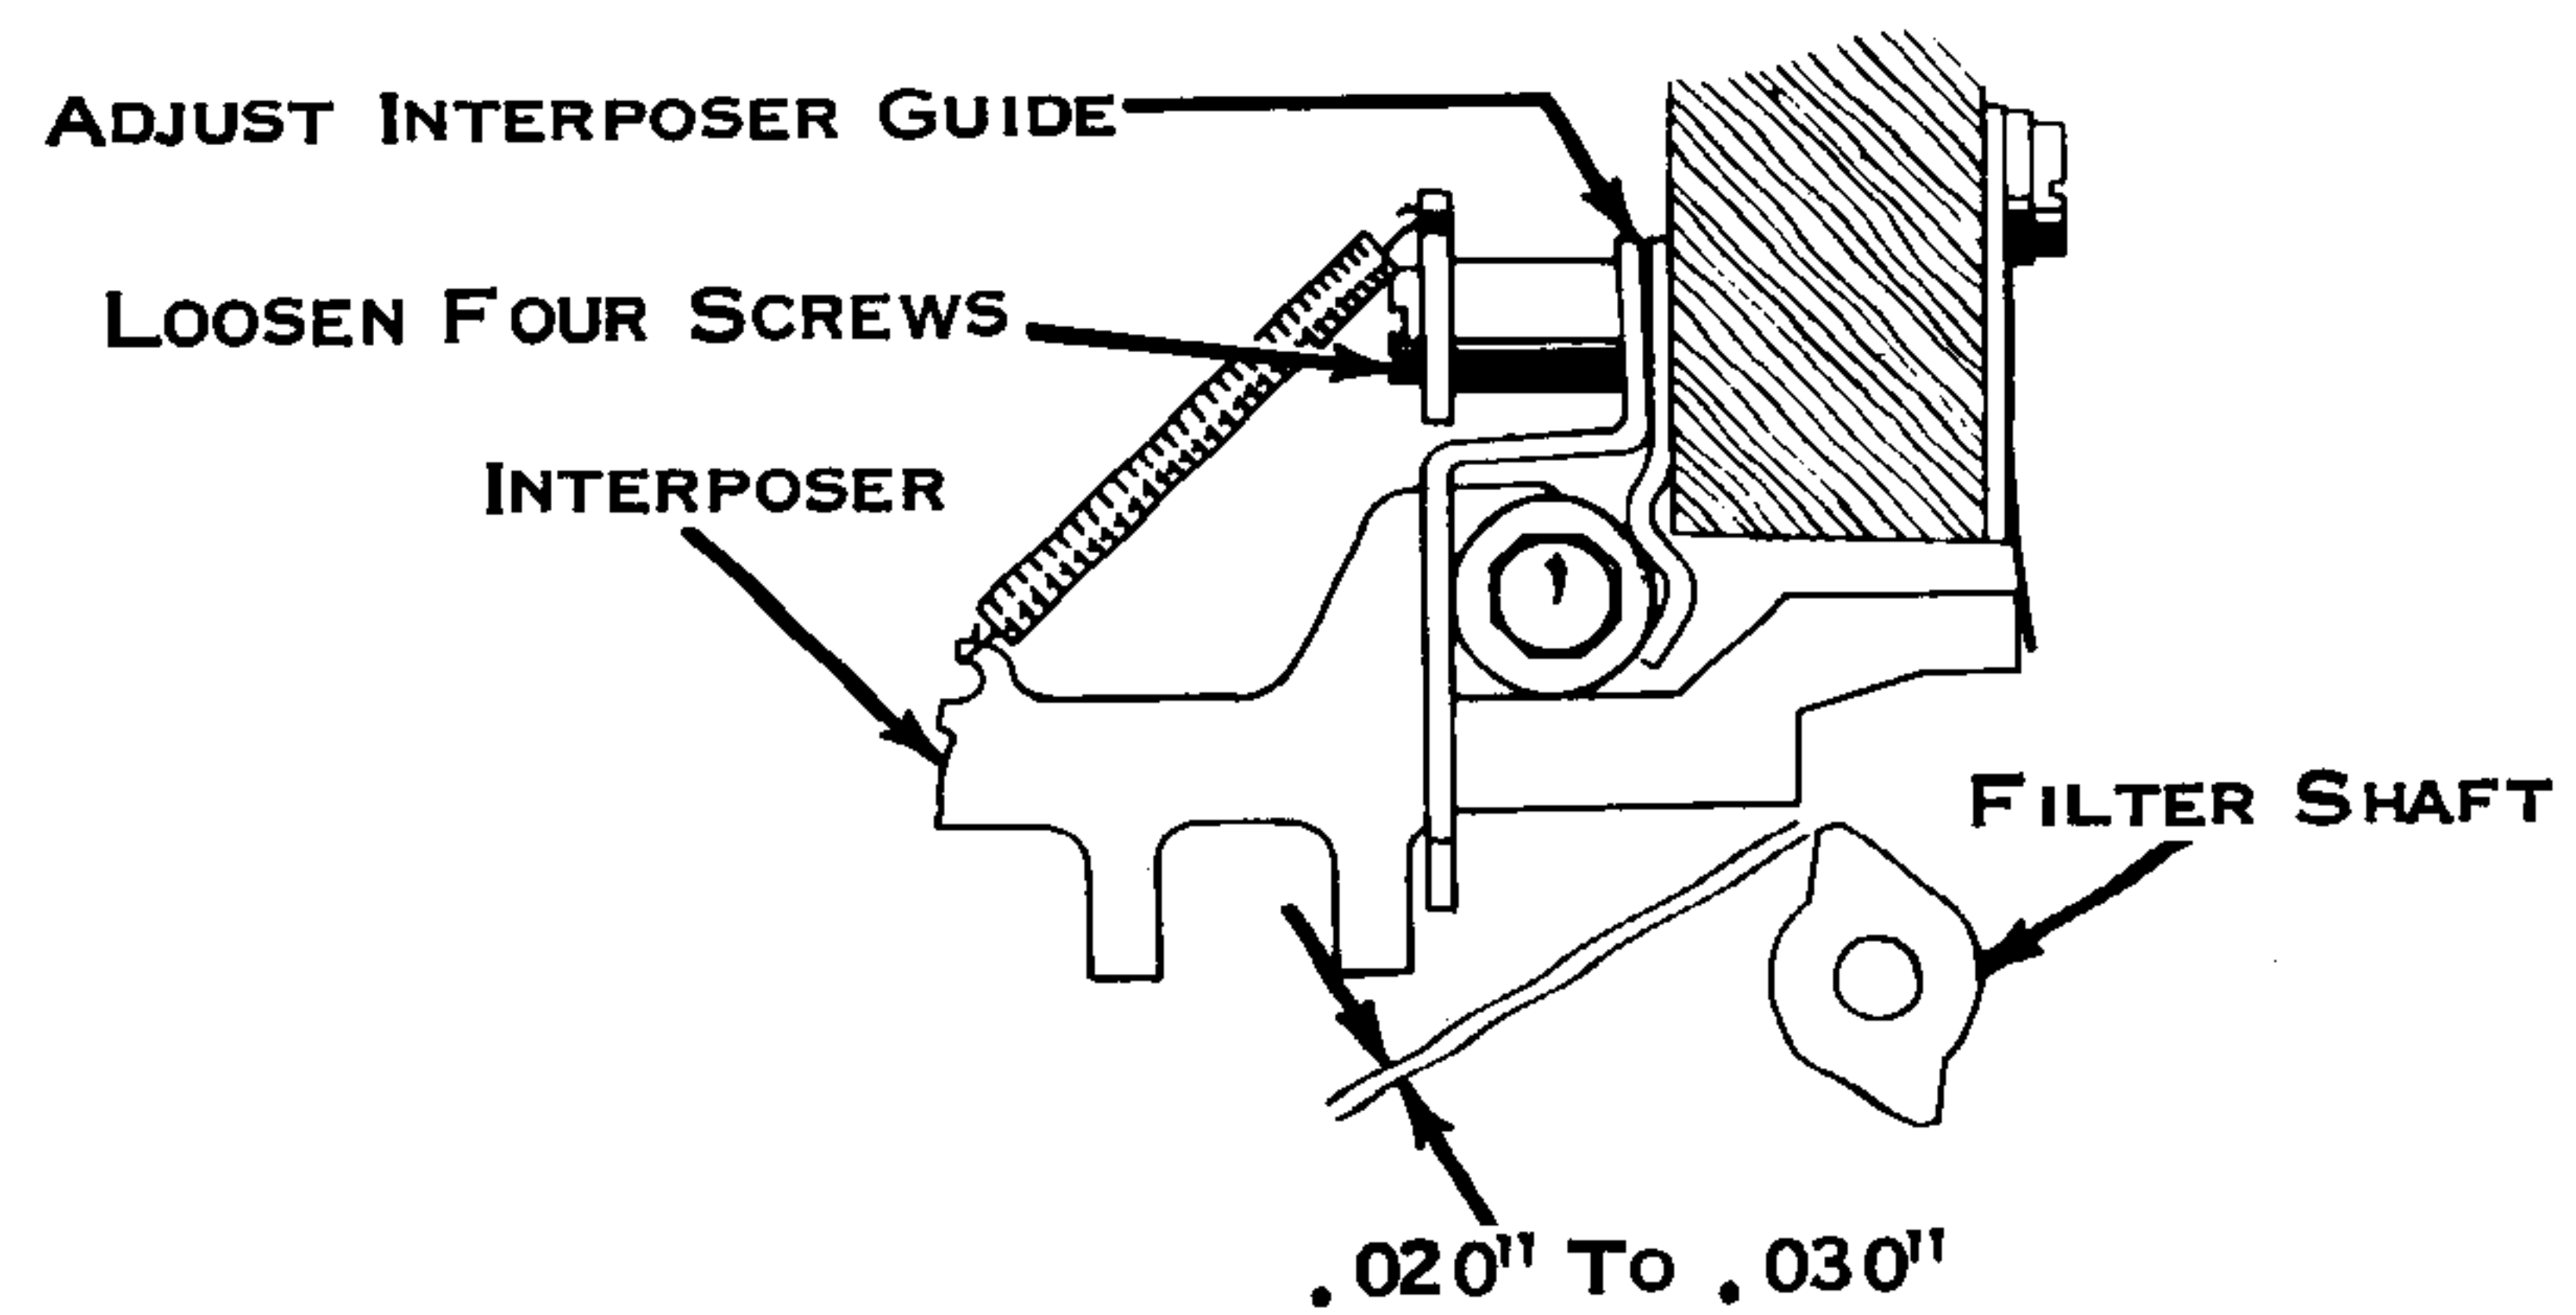

Figure 7. Rear Interposer Guide
2. Rear Interposer Guide (Fig. 7) - Adjust vertically to obtain .020" to .030" clearance between the filter shaft blade and the interposer. This adjustment determines the point to which other keylever and interposer adjustments must be made. CAUTION - This clearance should be checked at several points along the filter shaft.